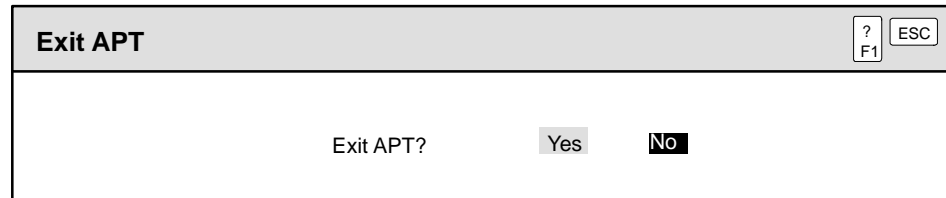

Figure 1-17 Exit Dialog Window
1. From the hierarchy, press **[Esc]** until the dialog window shown in Figure 1-17 appears on the screen.